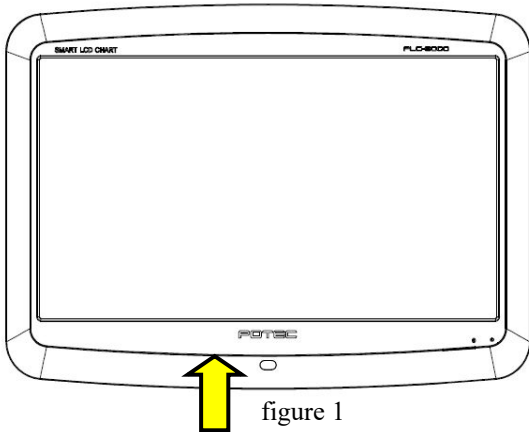

figure 1
- Insert USB into the USB port at PLC-8000(pola) like as figs. 1 and 2.